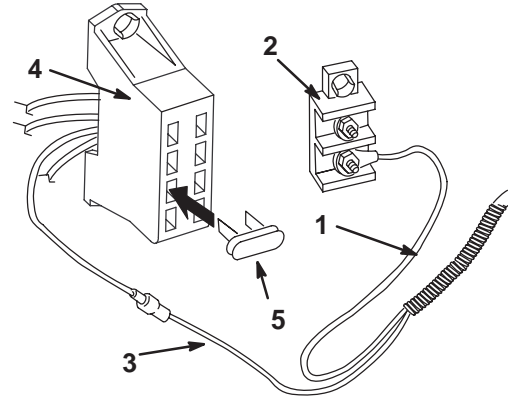

Figure 17
1. Connect the ring terminal on the black wire of the wiring harness to the ground terminal block (Fig. 17).
3. Insert the 20-amp fuse into the fuse block (Fig. 17).